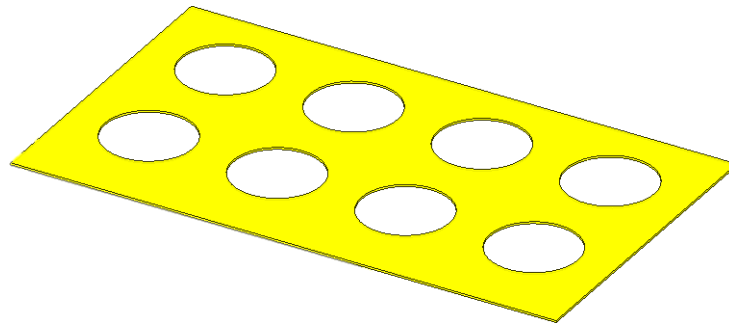

Figure 15. FR4 Standalone Spacer
1. A simple standalone spacer made of FR4 or other rigid material (see Figure 15).